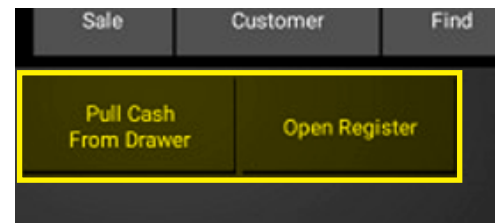

Figure 49
2. You will see two options (Figure 49):